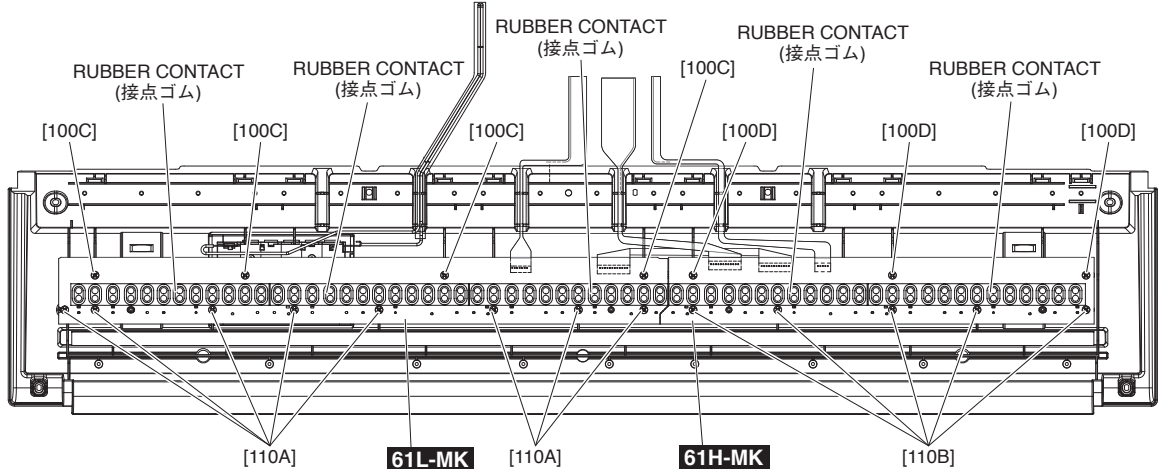

Fig.10 (図 10)
- 14-4-2 Remove the rubber contacts. (Photo 2, Fig.10)
- 14-4-2 それぞれの接点ゴムを外します。(写真 2、図 10)
- 14-5-2 Remove the four (4) screws marked [100C] and eight (8) screws marked [110A]. The circuit board 61L-MK can then be removed. (Fig.10)
- 14-6-2 Remove the three (3) screws marked [100D] and five (5) screws marked [110B]. The circuit board 61H-MK can then be removed. (Fig.10)
- 14-5-2 [100C] のネジ 4 本と [110A] のネジ 8 本を外して、シート 61L-MK を外します。(図 10)
- 14-6-2 [100D] のネジ 3 本と [110B] のネジ 5 本を外して、シート 61H-MK を外します。(図 10)